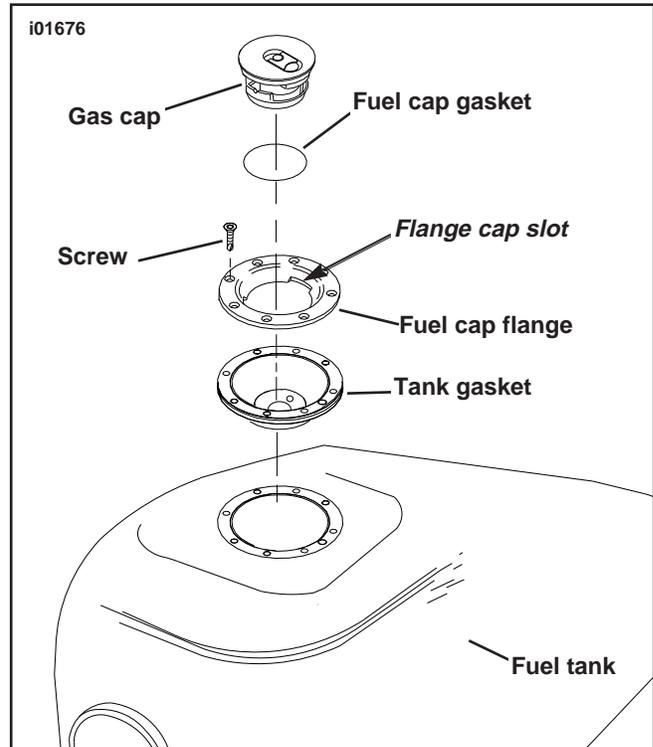

Figure 1. Gas Cap Assembly Installation
3. See Figure 1. Carefully install tank gasket ensuring holes line up with holes in fuel tank.